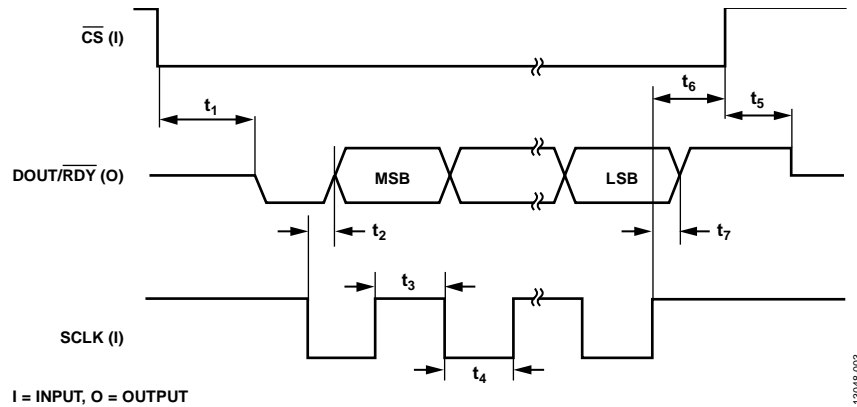
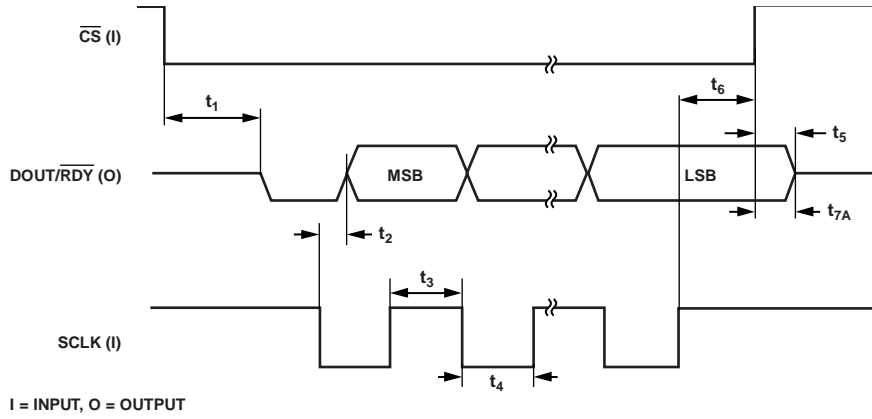
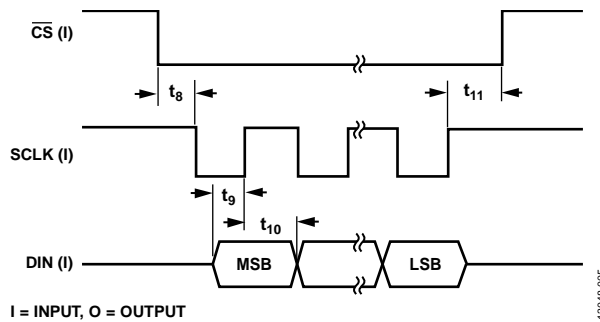
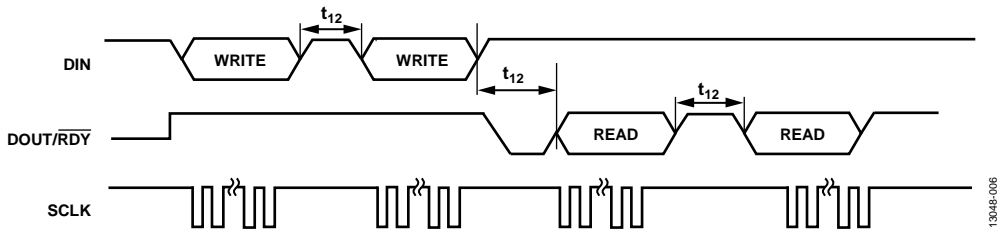

Figure 3. Read Cycle Timing Diagram ( $\overline{CS\_EN}$  Bit Cleared)
Figure 4. Read Cycle Timing Diagram ( $\overline{CS\_EN}$  Bit Set)
Figure 5. Write Cycle Timing Diagram
Figure 6. Delay Between Consecutive Serial Operations
- 2 See Figure 3, Figure 4, Figure 5, and Figure 6.